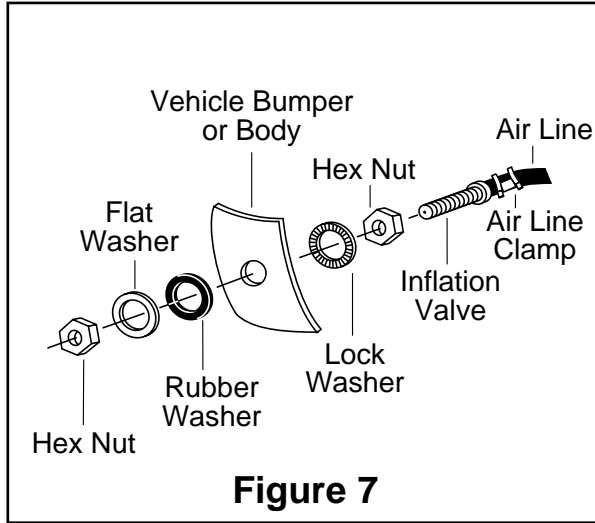

Figure 7
- L. Drill a 5/16" hole for inflation valve and mount as in illustration. Rubber washer is for outside weather seal (Figure 7).
- H. Drill 5/16" hole for inflating valves and mount as illustrated. Rubber washer is for outside weather seal (Figure 7).